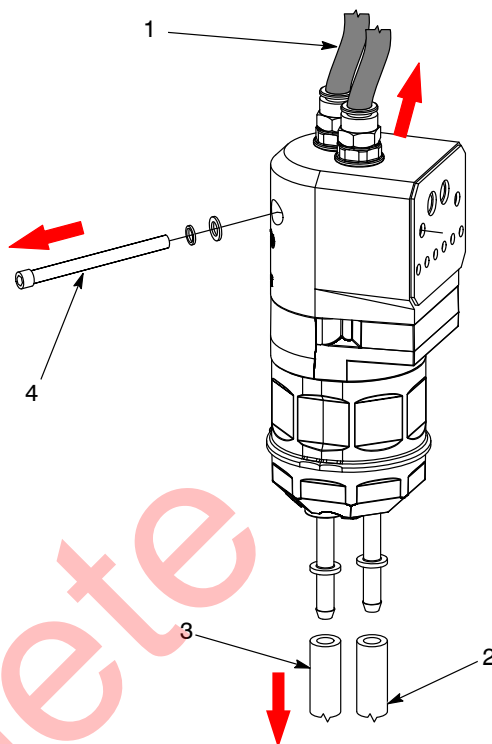

Figure 2 Retrofit Pump Disassemble Preparation
1. See Figure 2. For retrofit pumps, disconnect the purge air lines (1) from the top of the retrofit pump where applicable.